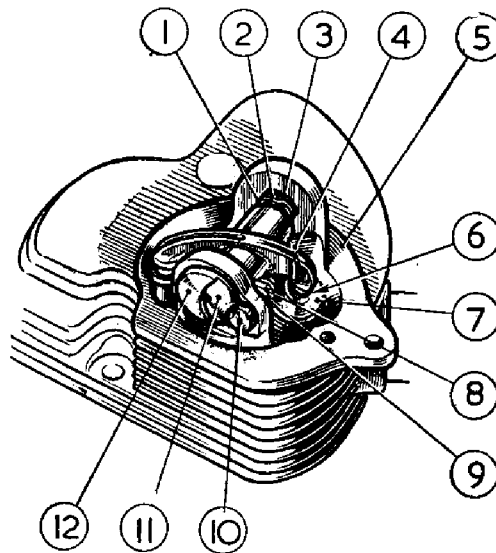

FIG 4
Insert a spoke, or stiff wire through plug hole to ensure the piston is exactly on T.D.C. by rocking the engine backwards and forwards. Slack off slightly the nut (8) (Fig. 4), turn the rocker spindle (12) to raise the rocker away from the valve (there is a slot in the spindle end).
To remove the valves. First remove rockers from cylinder head (see Fig. 4). The importance of correctly locating the valve spring seats is stressed, the wide face of the seat abuts against the cylinder head. Reversal will make the springs coil bound and cause damage to the valve gear. Proceed by removing the rockers (see Fig. 4 for assembly sequence). If a valve spring compressor is not available, use a wood block 2" in cube to support the valve with the head on a bench.